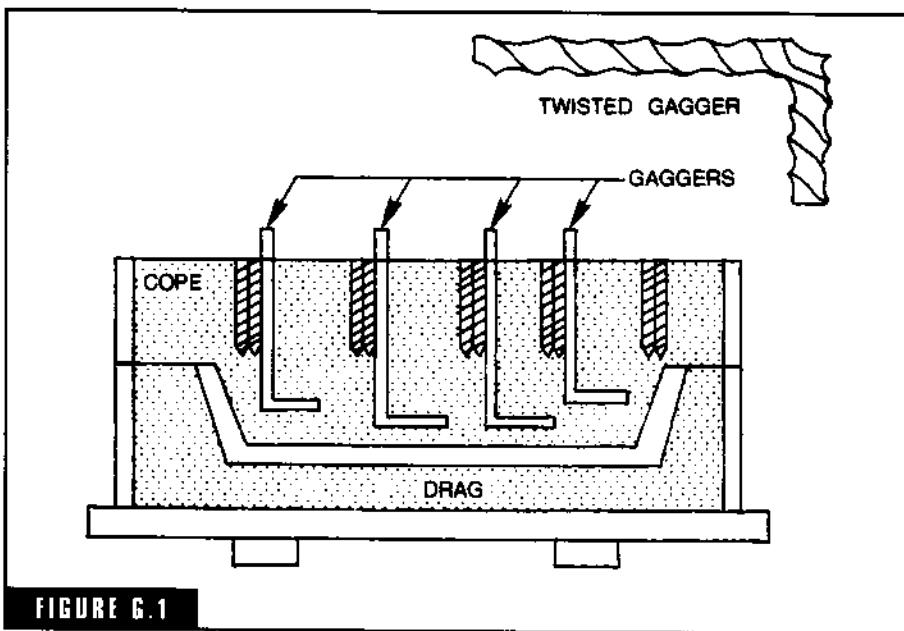

FIGURE G.1
**gaggers** L-shaped metal rods, square or twisted, used to assist in the supporting of the sand in the cope of a floor or larger mold (Fig. G-1).